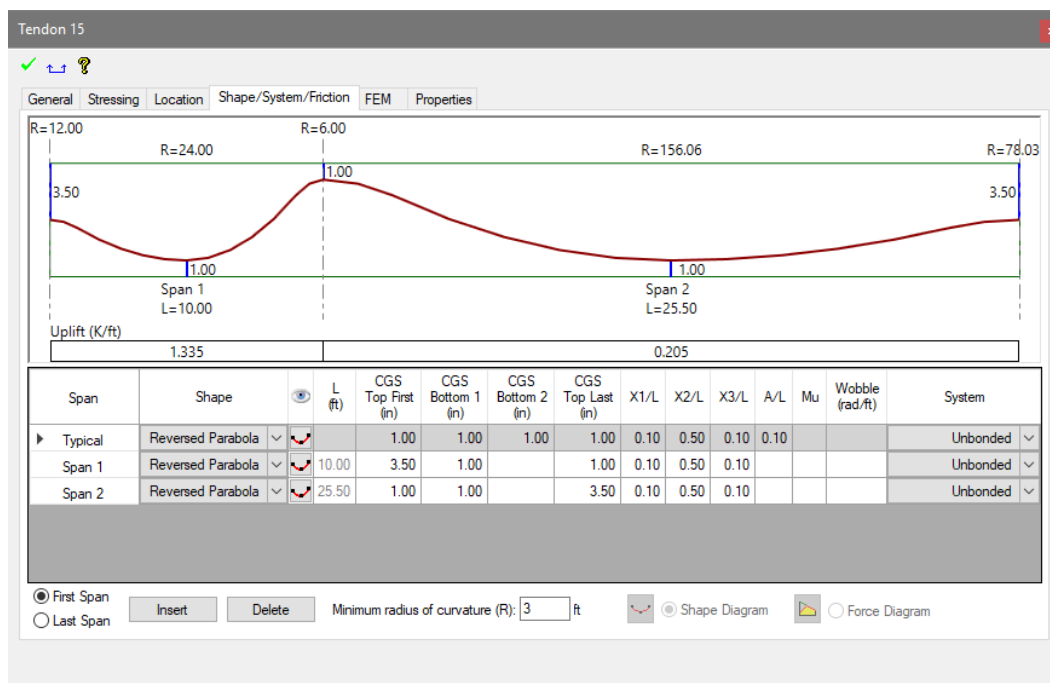

Figure 9-61
- Again, in the *Stressing* tab we will accept the default values as they match the values from our design criteria. **Left-click** on the *Shape/System/Friction* tab. The user should now see the same view as shown in **FIGURE 9-61**.